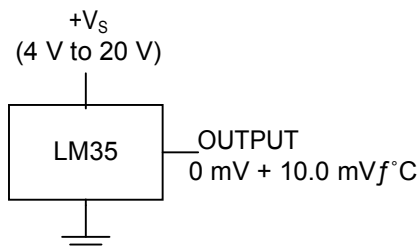

Figure 14. Basic Centigrade Temperature Sensor (2 °C to 150 °C)
Unless otherwise noted, these specifications apply: $-55^{\circ}\text{C} \leq T_J \leq 150^{\circ}\text{C}$ for the LM35 and LM35A; $-40^{\circ}\text{C} \leq T_J \leq 110^{\circ}\text{C}$ for the LM35C and LM35CA; and $0^{\circ}\text{C} \leq T_J \leq 100^{\circ}\text{C}$ for the LM35D. $V_S = 5\text{ Vdc}$ and $I_{\text{LOAD}} = 50\ \mu\text{A}$, in the circuit of Full-Range Centigrade Temperature Sensor. These specifications also apply from 2°C to T_{MAX} in the circuit of Figure 14.
| Minimum temperature for rate accuracy | In circuit of Figure 14 , $I_L = 0$ | | 1.5 | | 1.5 | | $^{\circ}\text{C}$ | |
(6) Quiescent current is defined in the circuit of Figure 14.